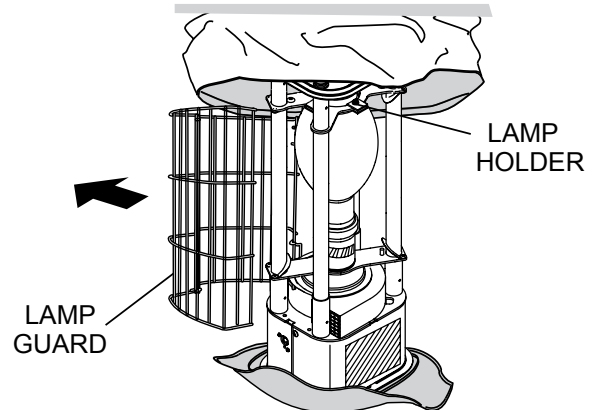

Figure 38. Lamp Guard Removal
7. Remove lamp guard (Figure 38).
1. Unzip the zipper (Figure 38) at the top and bottom of the balloon envelope (cover).